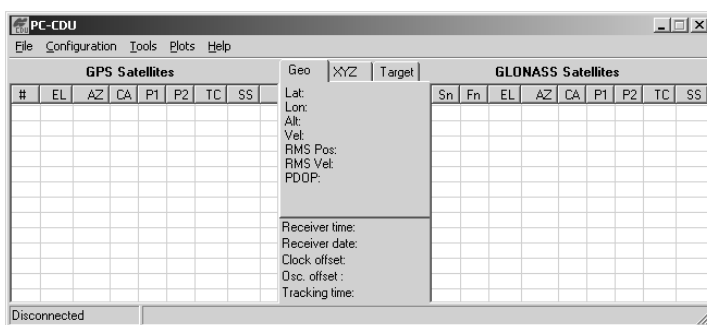

Figure 2-9. PC-CDU Main Screen
1. Once the receiver and a computer are connected, start PC-CDU on your computer. The PC-CDU main screen displays (Figure 2-9).